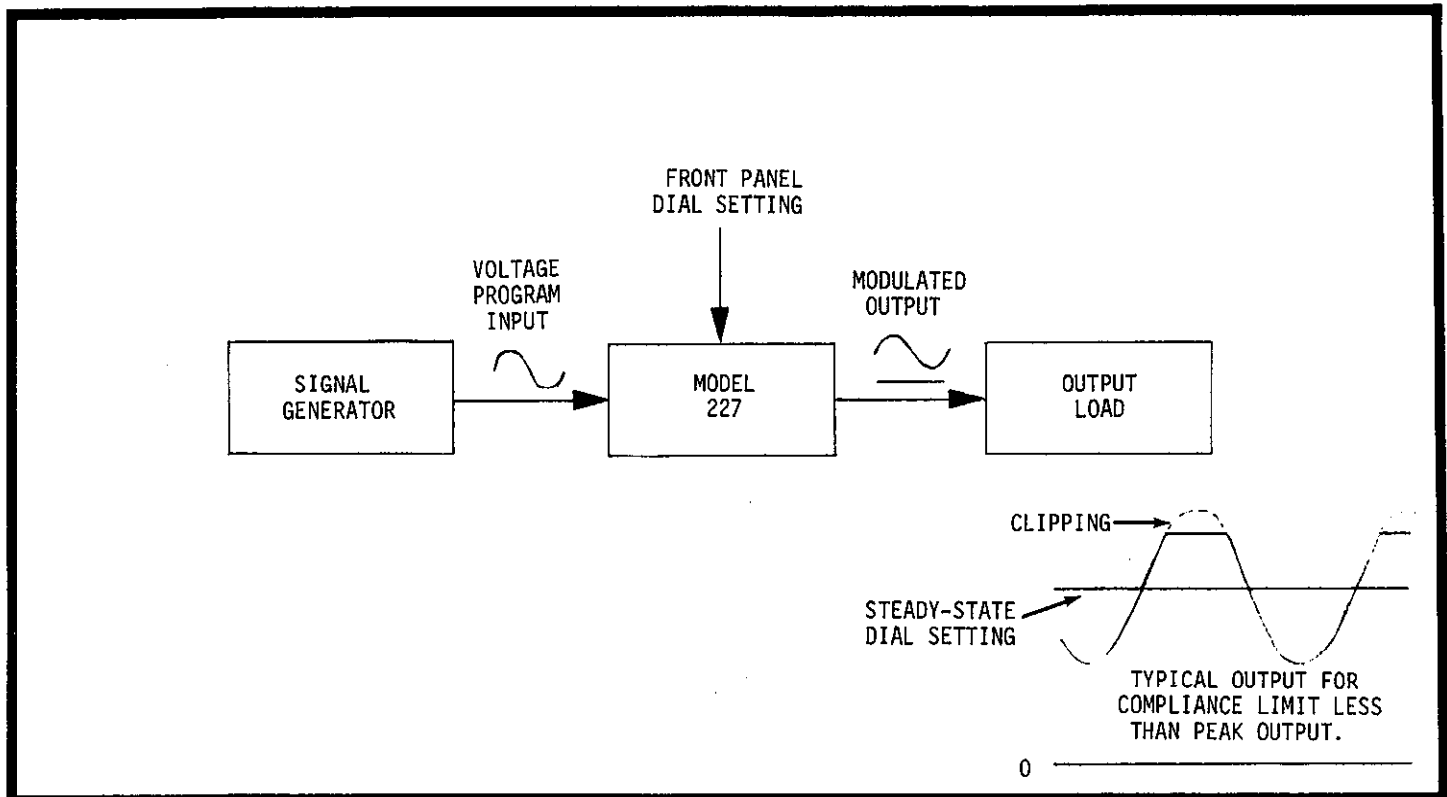

FIGURE 20. Use of Voltage Program Input to Modulate Current.
4. Adjust the % modulation as desired by monitoring the Model 227 output using an ac coupled oscilloscope. Figure 20 shows a typical modulated current output.